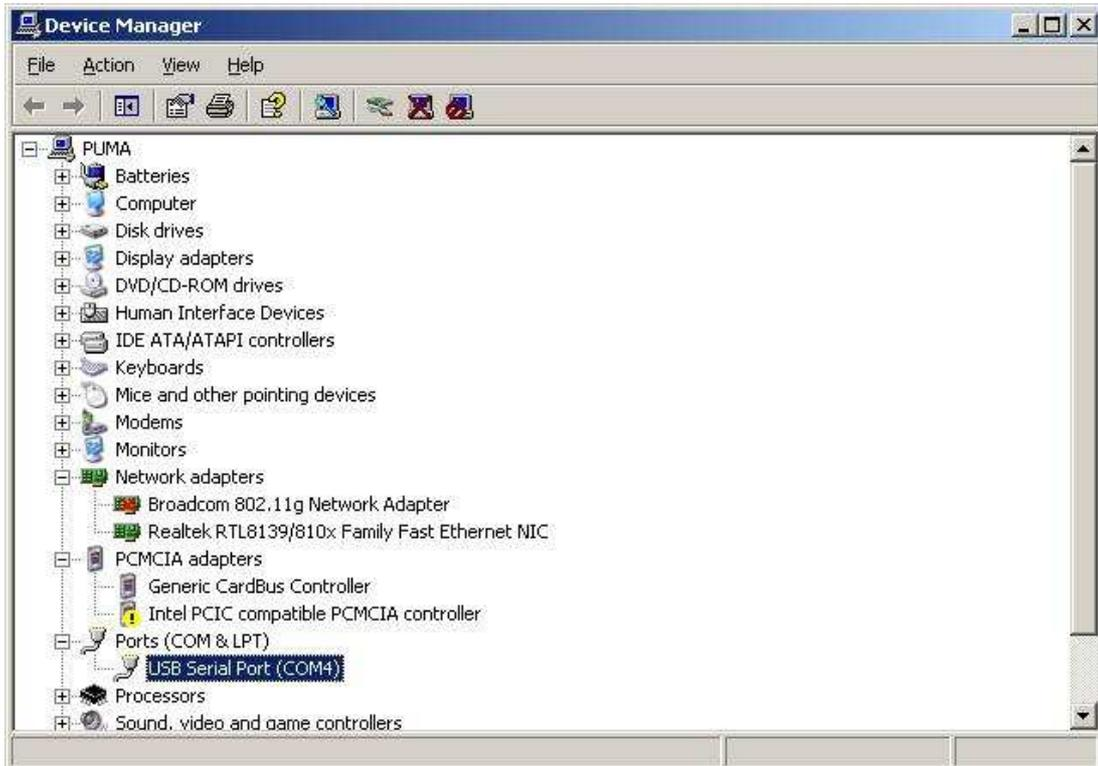

Figure 26: System Properties, Hardware (Device Manager)
2. Double click on the Hardware tab to obtain the Device Manager screen of figure 26.
In the System Properties, Hardware panel of figure 26, there should be an entry Ports (COM & LPT). Double click on that and it should open to an entry like USB Serial Port (COM4).
2. In the System Properties, Hardware panel of figure 26, there should be an entry `Ports (COM & LPT)`. Double click on that and it should open to an entry like `USB Serial Port (COM4)`.
Click on the Hardware tab and click on the Device Manager button. When the Device Manager (figure 26 on page 49) appears, select the Action menu and then Scan For Hardware Changes. Windows should detect the device and the screen of figure 40 should appear.